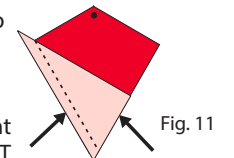

Fig. 11
2. With right sides together, place a left ST on the kite, aligning the two edges as illustrated. Press seam toward ST. Fig. 11